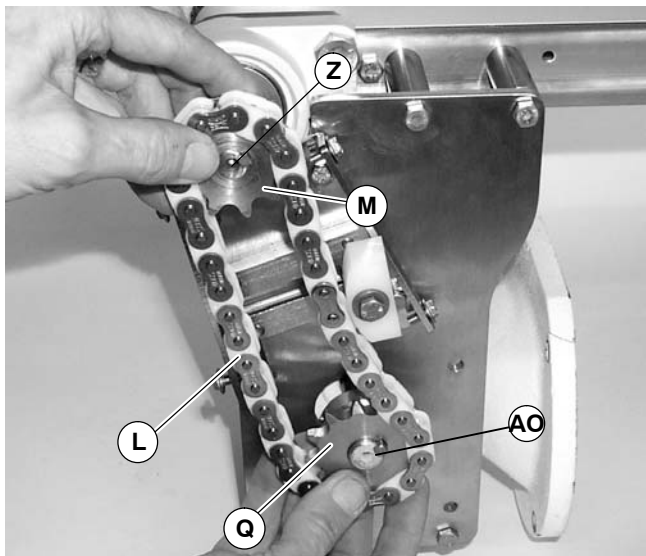

Figure 31
NOTE: Make sure sprocket keys are installed on conveyor input shaft (Z of Figure 31) and gear reducer output shaft (AO).